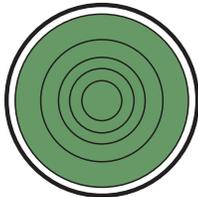

Figure 60. Main Circuit Breaker ON Lamp (ON/GREEN)
- Verify that the **Main Circuit Breaker ON lamp** (Figure 60) is illuminated (**GREEN**). This indicates that the **circuit breaker contacts are closed** and power has been sent to the load.